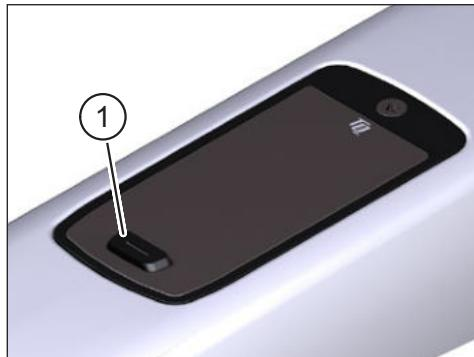

Fig. 2: Display
- Switch on the Drive Unit by shortly pressing the button (pos. 1 in Fig. 2) on the Display.
- Switch off the Drive Unit by long pressing the button (pos. 1 in Fig. 2) on the Display.